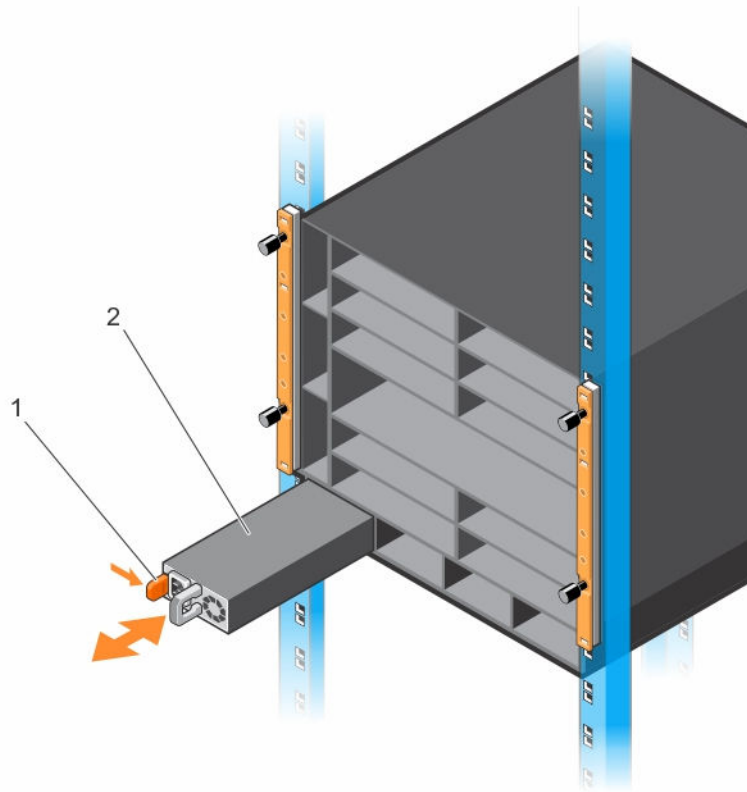

Figure 24. Installing the First Power Supply
2. Slide the first power supply into the left-most power supply slot (PSU 0) until the latch (item 1 in Figure 24) snaps in place. For the location of PSU slot numbers, refer to C9010 Hardware Description.